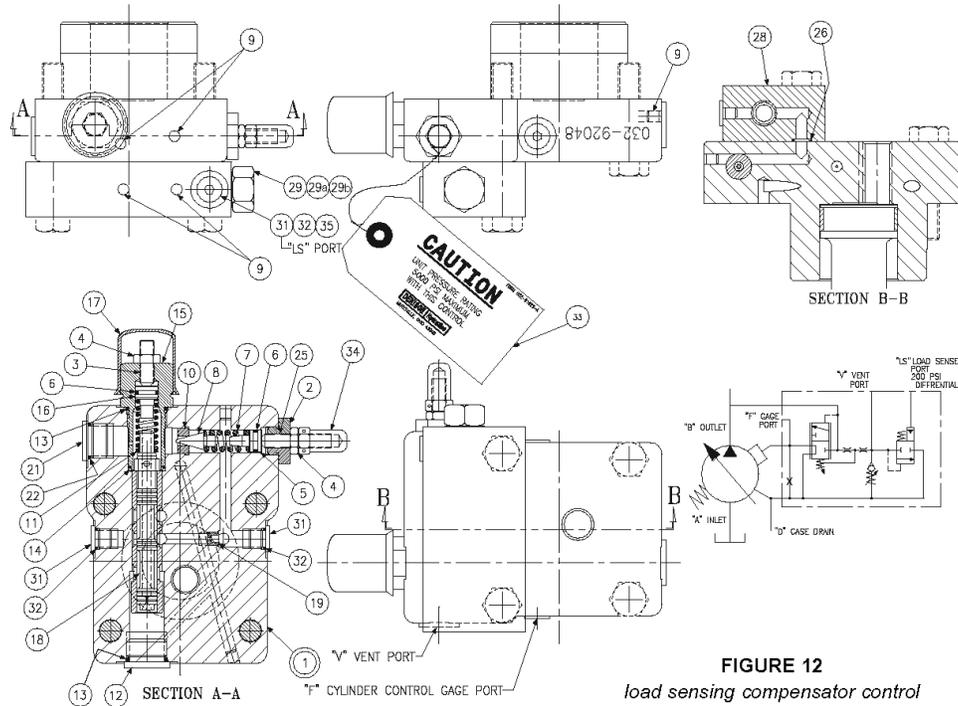

FIGURE 12
PARTS LIST FOR FIGURE 12
1. See Figure 12 Back off maximum volume screw or handwheel to full displacement. Remove maximum volume assembly.
3. Remove isolation valve (29) from block (28). Remove plug (15) and attached parts. Remove spring (11) and spool (18).
4. Remove adjusting plug (2) and attached parts. Remove seal piston (5). Note: a 10-24 screw may be used to assist in pulling the piston. Remove spring (7) and cone (8).
5. Do not remove sleeve in body (1). Sleeve is pressed into cap and finished to size. If sleeve or cap is worn, replace the cap-sleeve assembly (1).
6. Examine seat (10) for wear. Do not remove unless damaged.
7. For the P110 only, install O-ring (32) on adapter (35). Install adapter in block (28). Install plug (31) in adapter (35). For the P07 only, install O-ring (32) on plug (31). Install plug (31) in block (28).
8. Note proper location for cap on pump (page 24). Install O-rings on interface between cap and pump control pad. Install O-rings (26) in block (28).
**Ref. Figure 12**